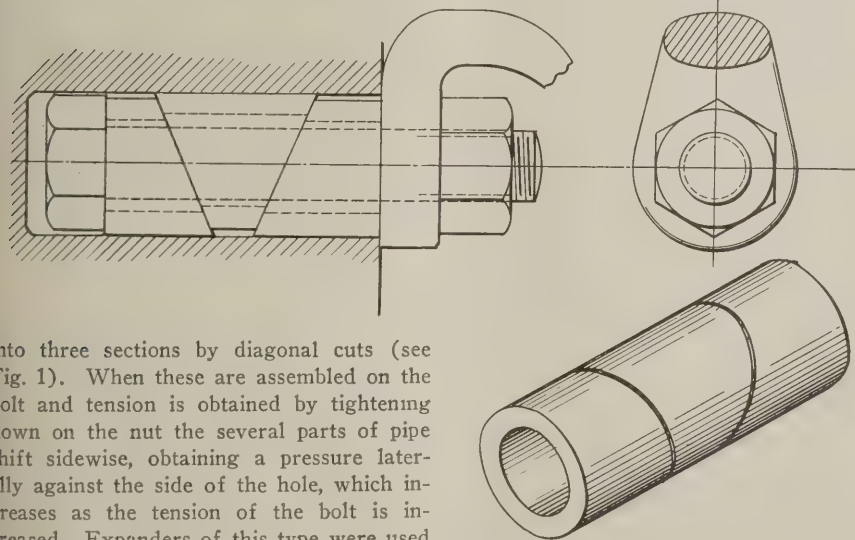

Fig. 1
G. A. L., Washington, D. C., writes: "There are on the market any number of patent types of expansion bolt grips for use in brick walls and concrete walls and floors, but sometimes because of delay or for one thing or another these are not available. At such times it is possible to make up these expanders from materials at hand in the way illustrated below, Fig. 1. This consists in using the bolt of the desired size but of extra length to extend into the wall or floor. A 6 or 8-in. length of wrought iron pipe, as large on the outside diameter as the bolt head, is sawed
into three sections by diagonal cuts (see Fig. 1). When these are assembled on the bolt and tension is obtained by tightening down on the nut the several parts of pipe shift sidewise, obtaining a pressure laterally against the side of the hole, which increases as the tension of the bolt is increased. Expanders of this type were used recently in putting up some porcelain wash-bowls in a local building, with perfect results, even though the building is subject to considerable vibration from hydraulic pumps located in the basement."